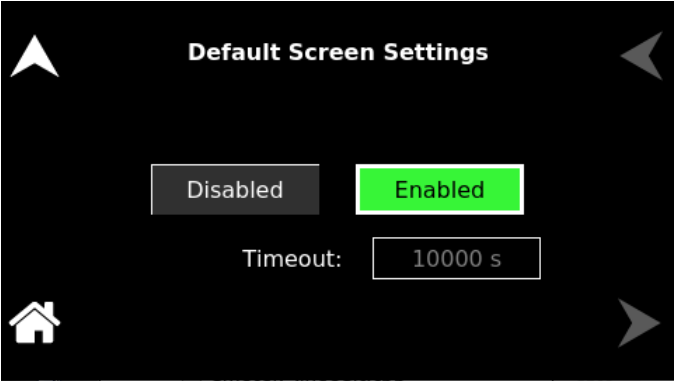
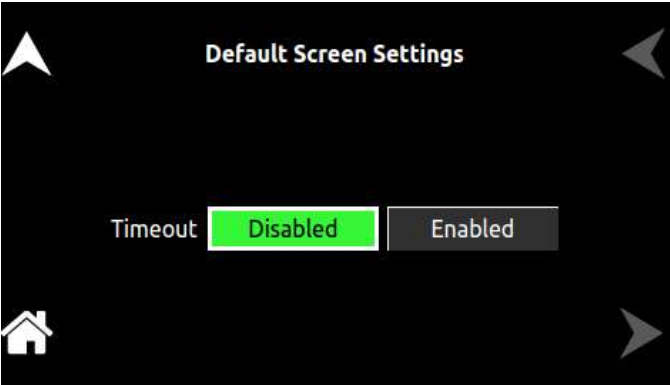

Figure 13-63. Default Screen Settings
Figure 13-64. System Settings Screen - Default Screen Disabled
- Default Screen**      Selects whether the Default screen (showing measured voltage, current and power) is enabled or disabled, refer to Figure 13-63 and Figure 13-64. It allows to set the time out if the default screen is enabled.